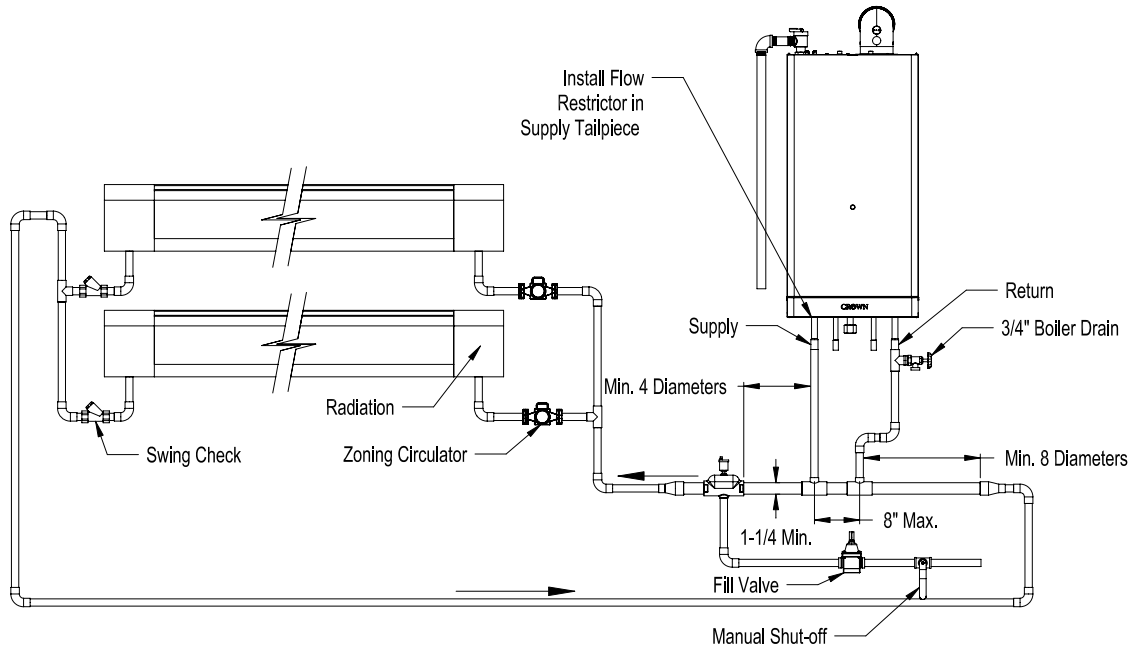

Figure 9.5: Primary-Secondary Piping
- If the boiler is connected to a primary-secondary system (Figure 9.5), install the orifice in the supply tailpiece as shown in Figure 9.4.
- 1) **Primary-Secondary Piping** – Primary-secondary piping is required when circulator zoning is used or when the system flow rate must be greater than 5.5 GPM. In these cases, the piping shown in Figure 9.5 is used so that the flow through the system is completely independent of the flow through the boiler. This ensures reliable operation of the boiler’s flow switch.
When assembling the piping shown in Figure 9.5, be sure to observe the minimum dimensions shown. The minimum pipe size of the primary piping in the vicinity of the tees is 1 1/4". At least 11" (8 diameters) of 1-1/4" straight pipe must be installed upstream of the tees as shown. At least 5 1/2" (4 diameters) of 1-1/4" straight pipe must be installed downstream of the tees.